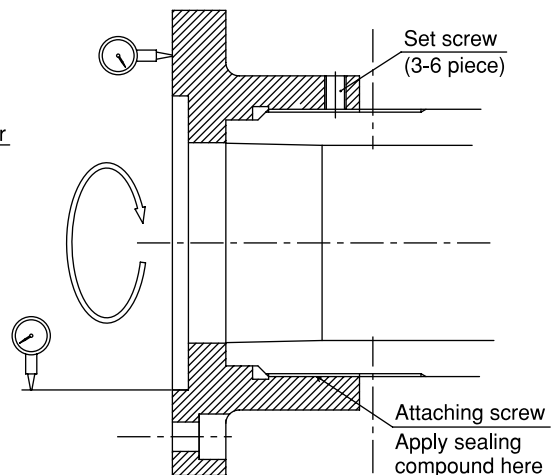

Fig.9 Run-out measurement of the cylinder adapter
- Attach with the surface run-out of the cylinder adapter and the run-out of the spigot joint at 0.005 mm or less. (Fig. 9) Large run-out causes vibration and shortens the life of the cylinder significantly.
- Never fail to provide a setscrew to prevent loosening of the cylinder adapter. (Fig. 9)